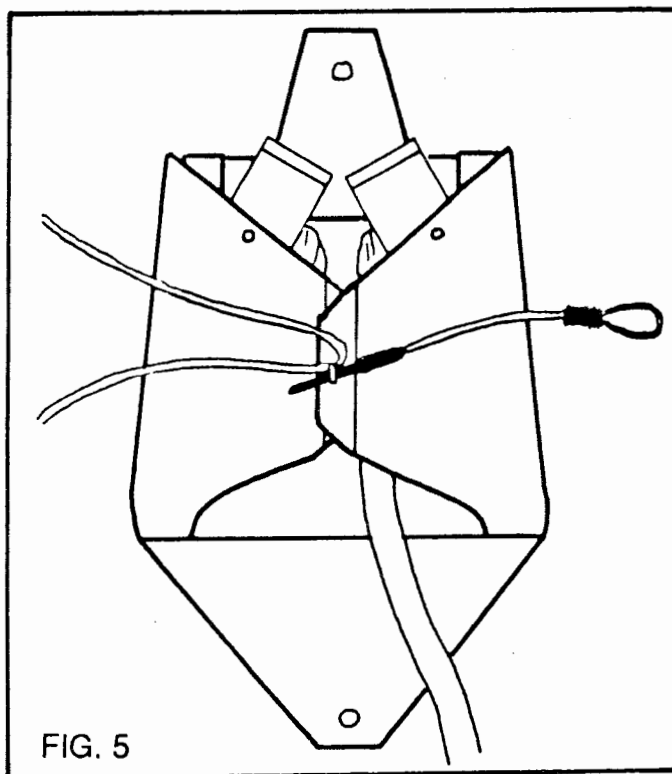

FIG. 5
8) Route the bridle out the bottom of the container and close the side flaps, either side first, securing with a temporary pin (see FIG. 5). Leave the tuck flaps out until all but the top flap have been closed. They will be used then to help "dress" the container.